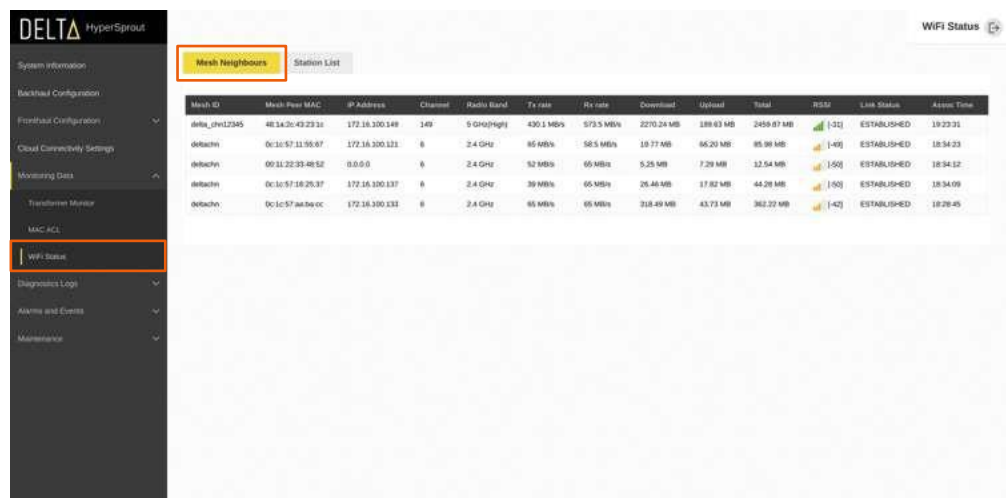

Figure 58: Wi-Fi Status Mesh
- Any mesh neighbors will be noted under the *Mesh Neighbors* tab as shown in *Figure 58*.